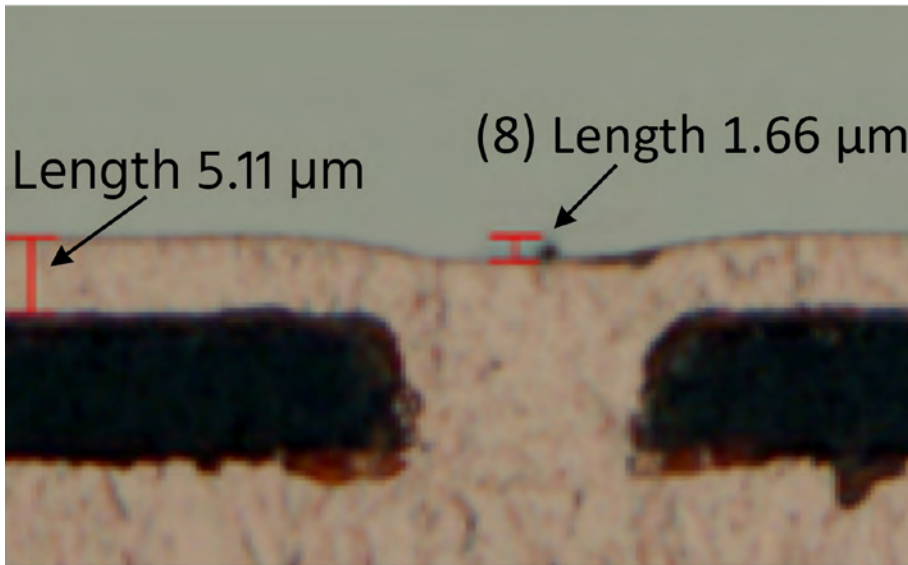

Figure 10: Achieved copper thickness distribution on a 600x600-mm panel.
2. Capable of filling microvias with a size of 15x10  $\mu\text{m}$  by having only 5  $\mu\text{m}$  plated thickness on the surface and a dimple less than 2  $\mu\text{m}$  (Figure 10)